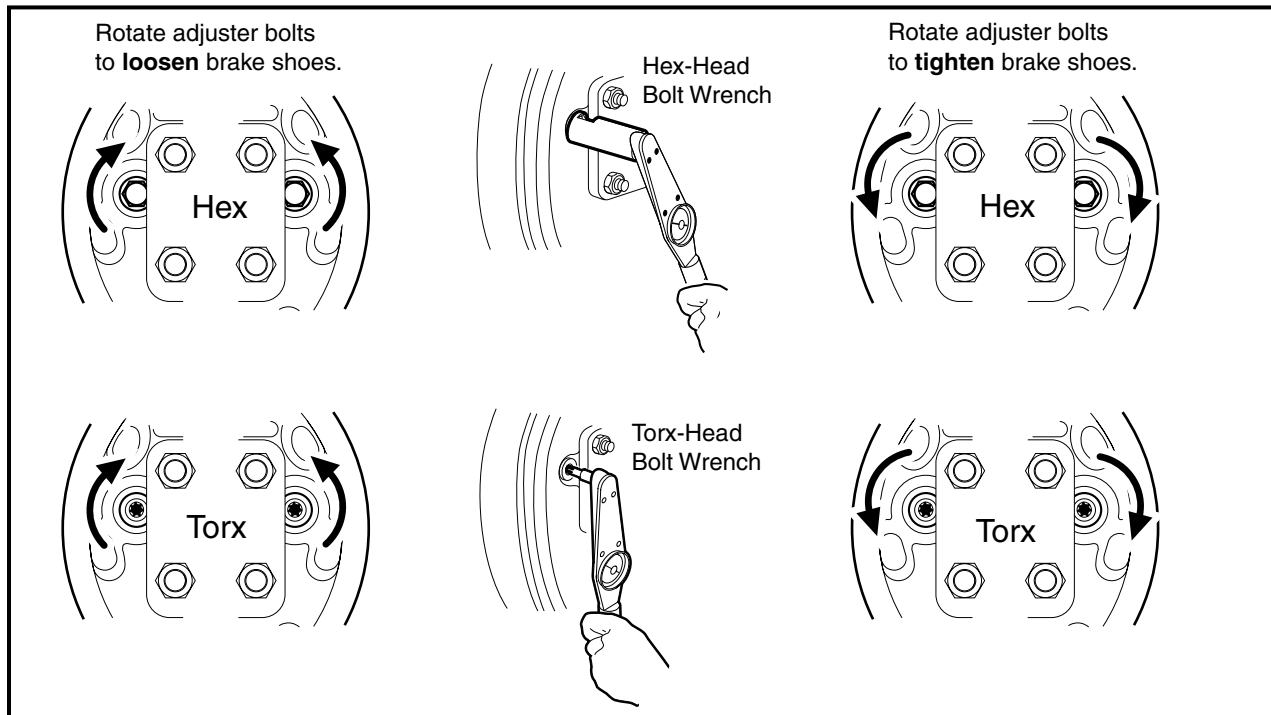

Figure 6b-16 Loosen or Tighten Brake Adjusters
18. Install the dust cover (1) (**Figure 6b-4, Page 6b-9**).
19. With the brake drum properly seated and secured, use a torque wrench with a Torx #T-27 driver, or hydraulic brake adjuster (CCI P/N 102169401), and gently adjust the clearance between the brake shoe lining and brake drum by turning each of the two adjuster bolt heads on the back of the brake cluster plate as shown (**Figure 6b-16, Page 6b-19**). **See following CAUTION.**
- **Do not apply more than 65 in-lb (7.3 N·m) of torque to any of the adjuster bolts. Over-tightening the adjuster bolts could result in damage to the brake cluster components or the separation of the bolt (4) from the adjuster (3) (**Figure 6b-3, Page 6b-4** or **Figure 6b-21, Page 6b-25**).**
20. Install the wheel and finger-tighten the lug nuts (21) (**Figure 6b-3, Page 6b-4**).
1. Place the brake drum (15) onto the axle hub and brake cluster (**Figure 6b-21, Page 6b-25**).
2. Using a torque wrench with a Torx #T-27 driver, or hydraulic brake adjuster (CCI P/N 102169401), gently rotate the adjuster bolts to increase the clearance between the brake shoe lining and the brake drum (**Figure 6b-16, Page 6b-19**). **See following NOTE.**